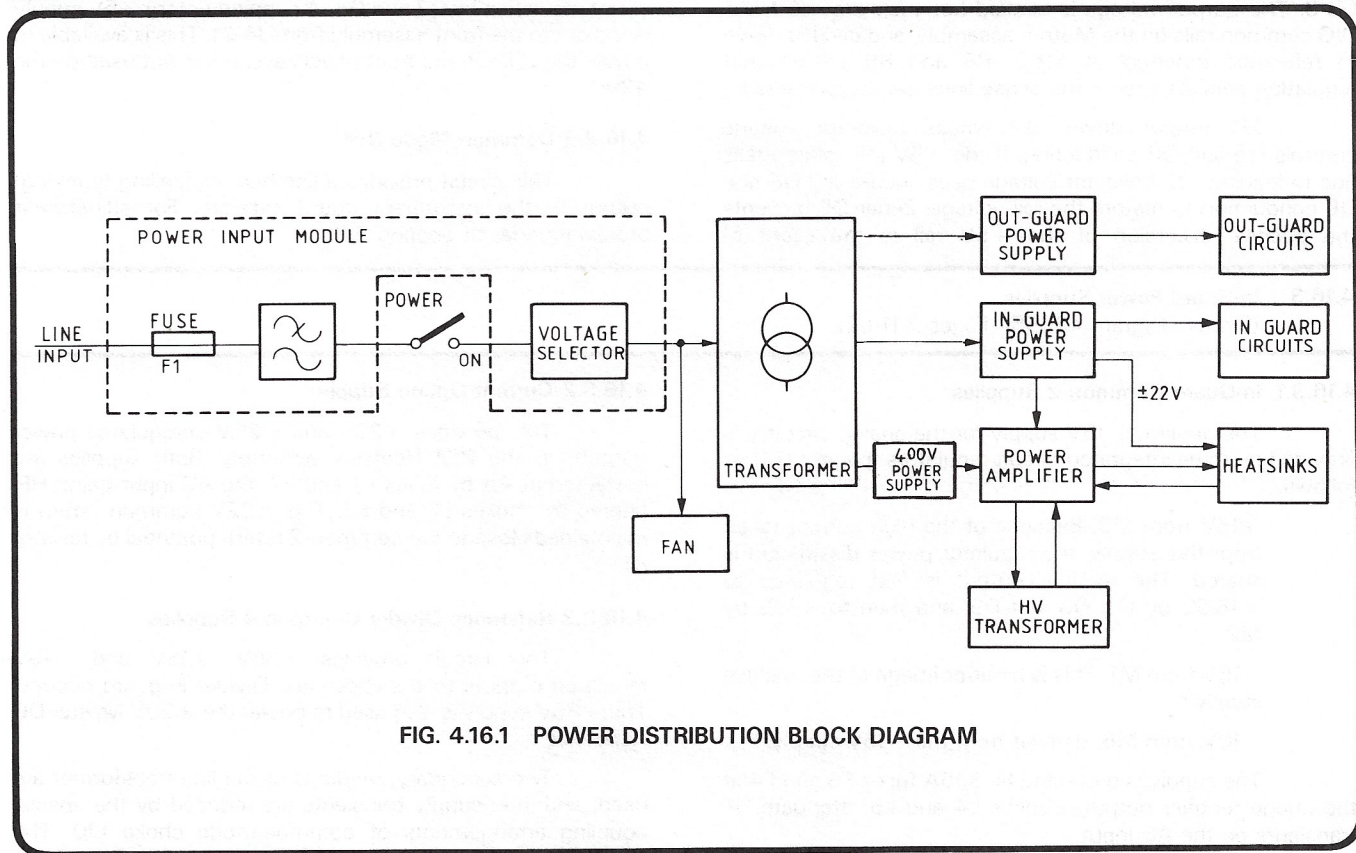

FIG. 4.16.1 POWER DISTRIBUTION BLOCK DIAGRAM
A simplified power-distribution block diagram appears at Fig. 4.16.1.
4.16.1 Line Power Distribution (Fig.4.16.1) (Circuit Diagram 430439 Page 7.17-2)